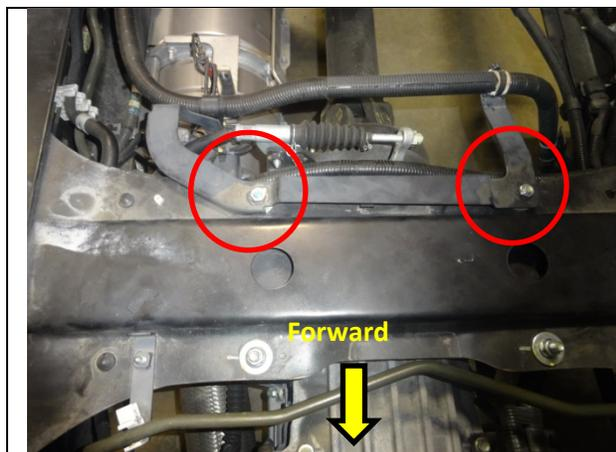
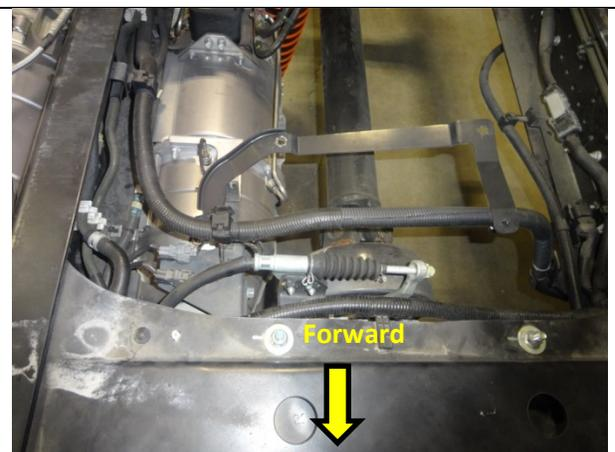

Figure 1
Figure 2
1. Remove the two (2) 14mm nuts that hold on the DEF line bracket (Figure 1). Move the DEF line bracket assembly back out of the way (Figure 2).